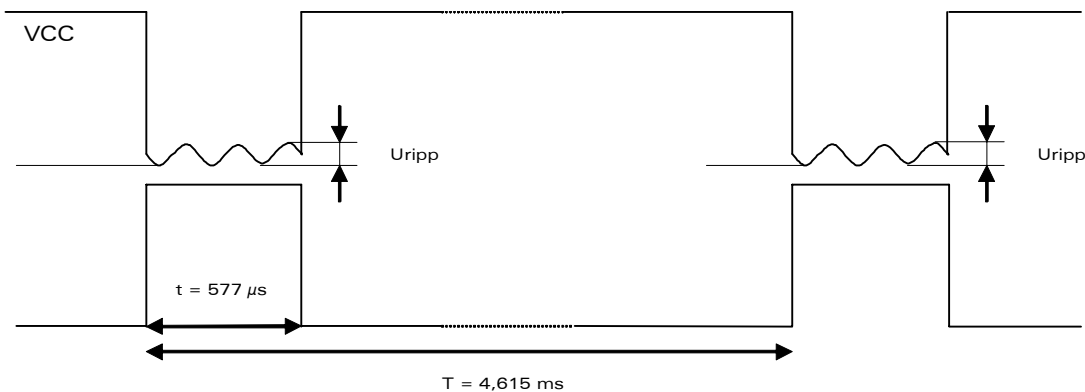

Figure 2: Power supply during burst emission
- In communication mode, a GSM/GPRS class 2 terminal emits $577\mu\text{s}$ radio bursts every 4.615ms (see Figure 2 below).